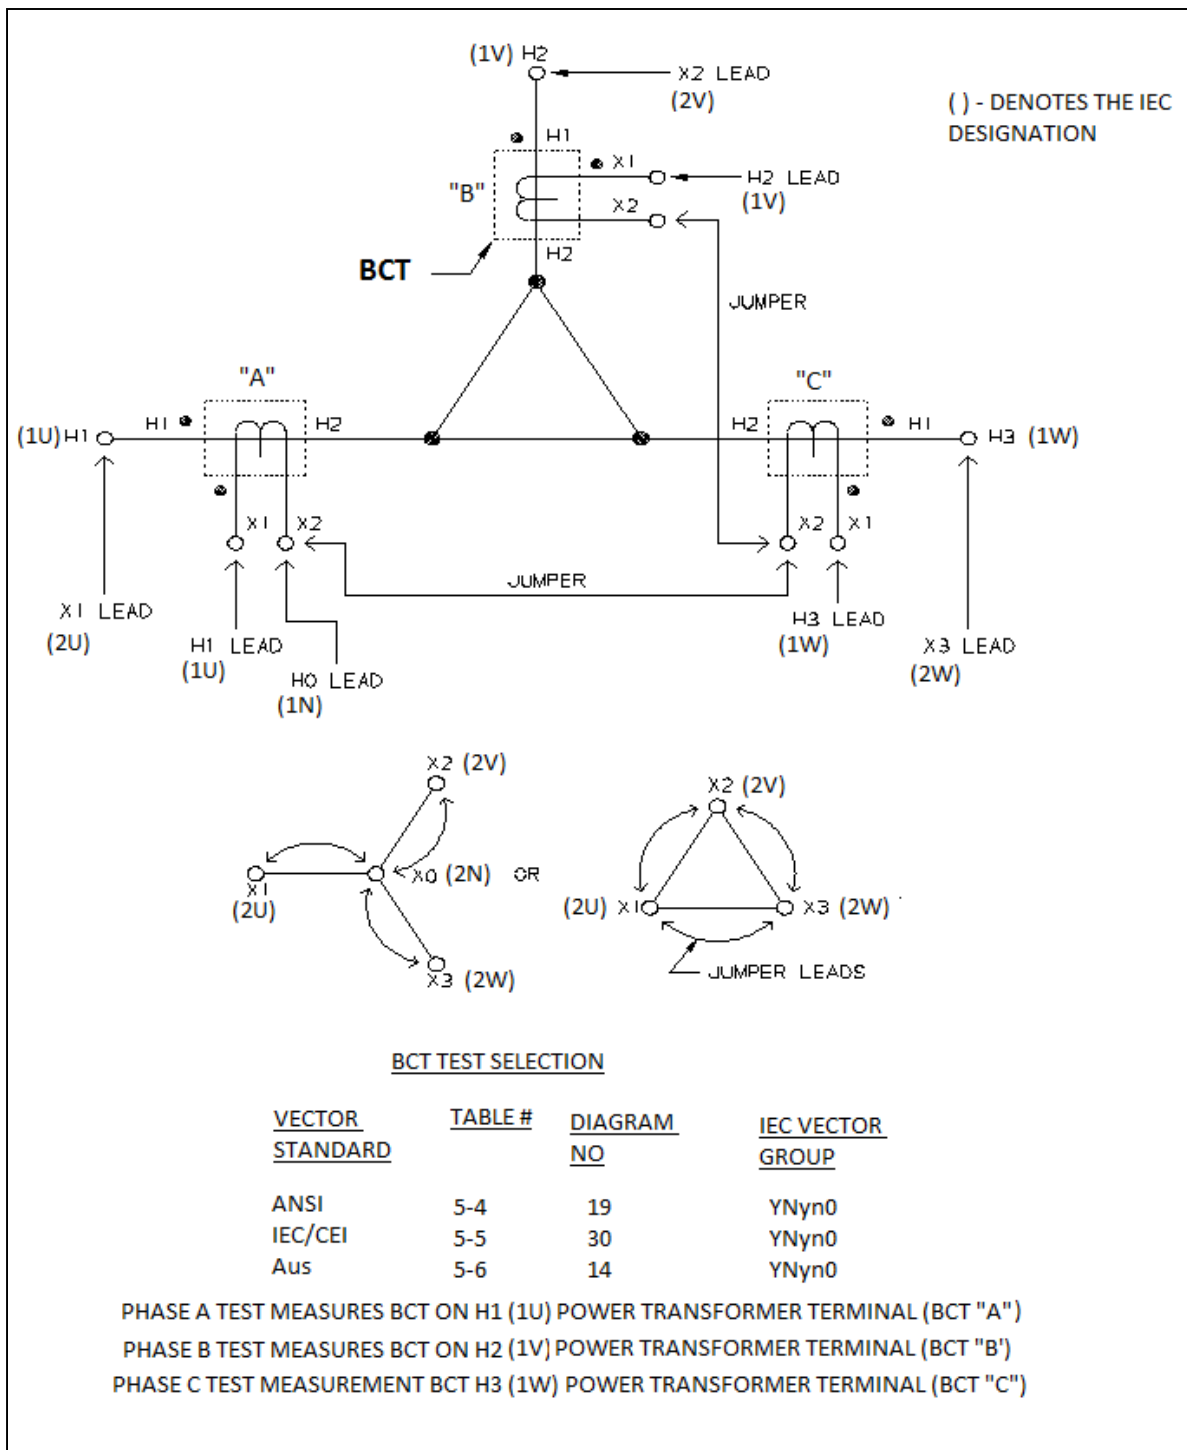
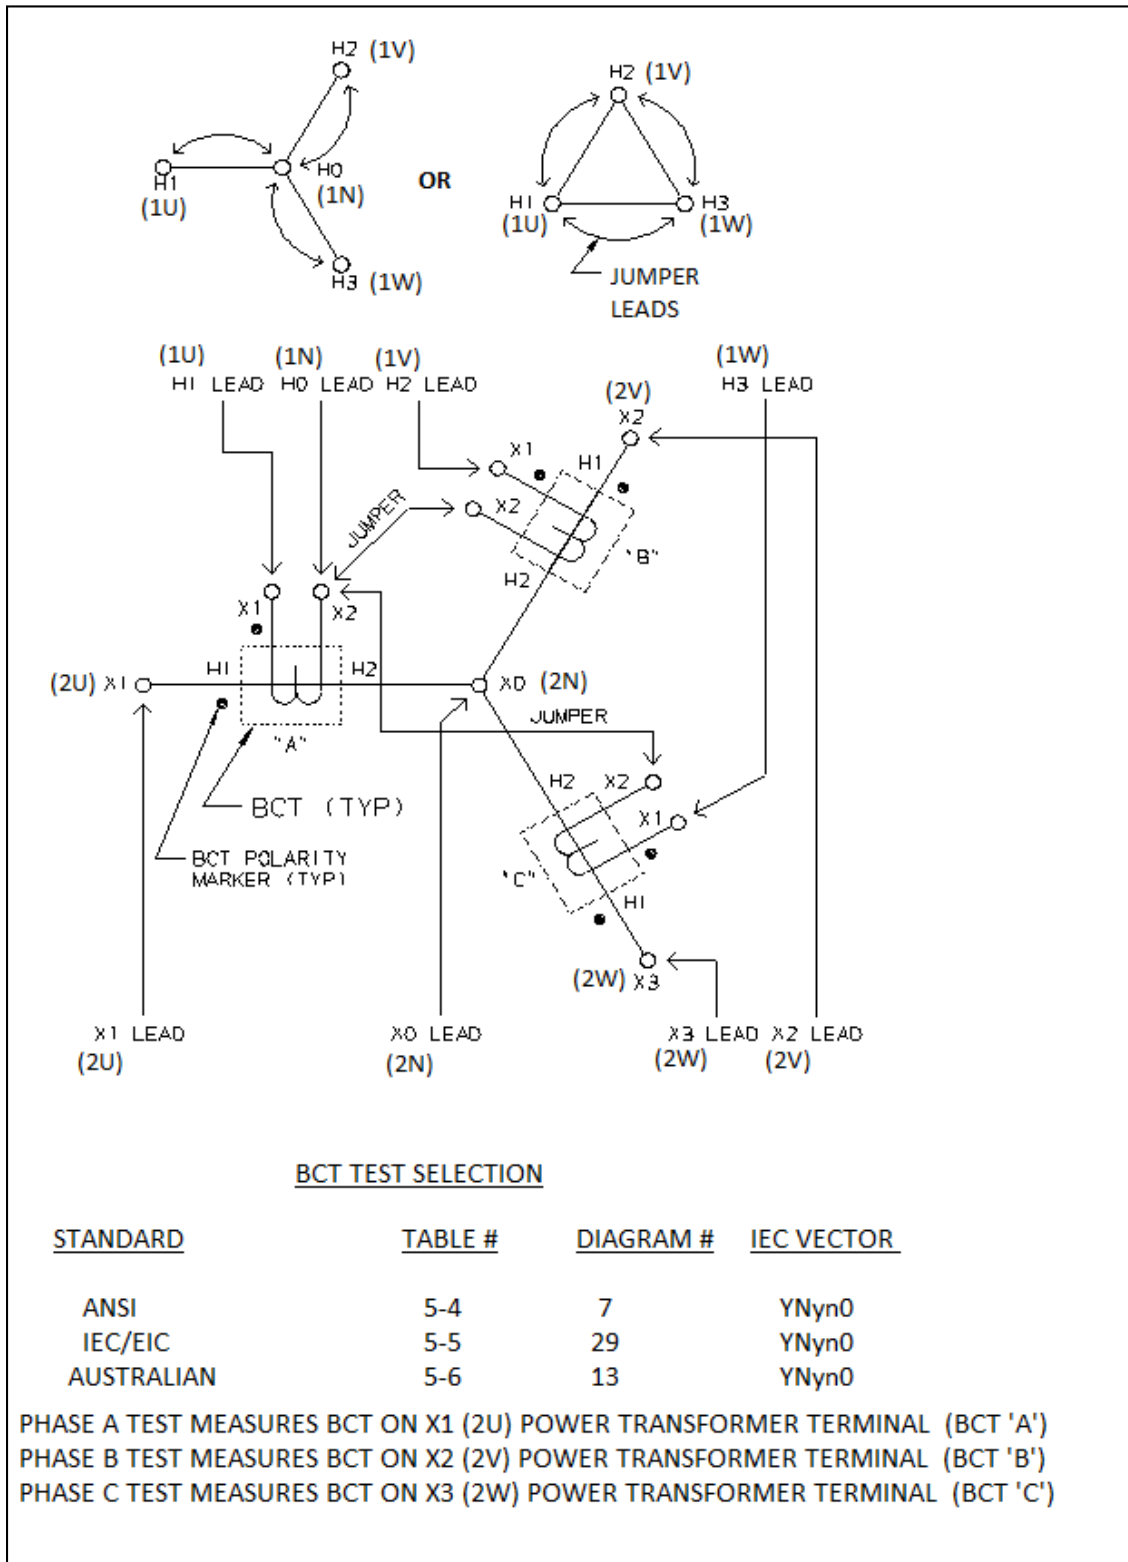

Figure 6-11 Setup for Testing BCT Mounted on Delta Winding on a Three-Phase Power Transformer (Shorting only required during Ratio Test) – Use diagram **YNyn0**
Figure 6-12 Setup for Testing BCT Mounted on Wye Winding of a Three-Phase Transformer (Shorting only required during ratio test) –Vector diagram **YNyn0**
A turn-ratio test can be performed on all three BCTs using a single setup. Figure 6-11 shows the proper test connections when the BCTs are mounted on a typical delta winding and Figure 6-12 shows how when mounted on a typical wye winding. For winding resistance measurements, special connections below can be utilized for the BCT, but only X side resistance is recorded, and on separate forms.
2. Ensure that the BCT polarity connections are correct. Make connections as shown in Figure 6-11 for delta winding configurations and Figure 6-12 for wye winding configurations.